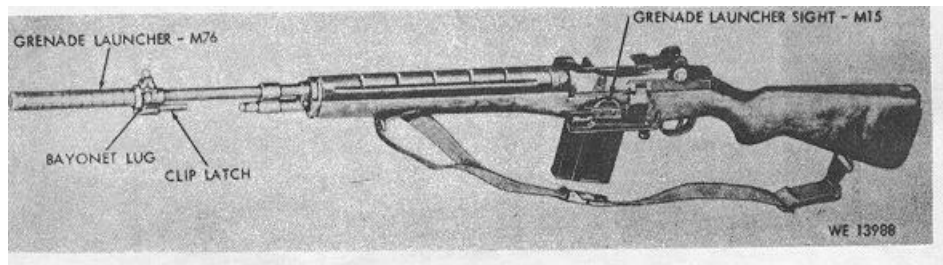

Figure 1-5. 7.62-MM Rifle M14 with Grenade Launcher M76 and Grenade Launcher Sight M15.
f. The Grenade Launcher Sight M15 (fig. 1-5) is used in conjunction with the Grenade Launcher M76 when launching grenades from Rifle M14. It consists of mounting scale plate and sight bar assembly. The mounting scale plate is attached to the left side of the stock by two screws. The sight bar assembly is attached to the mounting plate.